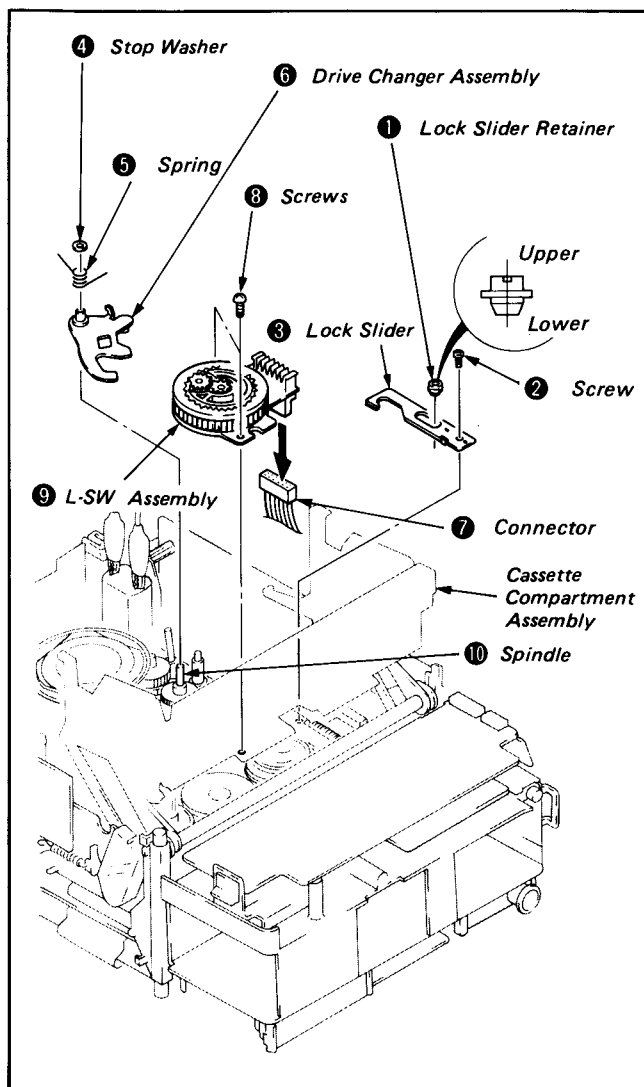

Fig. 8-34.
- 2) Remove the lock slider retainer ①.
- 3) Remove the screw ② and lock slider ③.
- 4) Remove the stop washer ④ and spring ⑤.
- 5) Remove the drive changer assembly ⑥.
- 6) Remove the connector ⑦.
- 7) Remove two screws ⑧ and L-SW assembly ⑨. (See Fig. 8-34.)
- 7) Remount the drive changer assembly ⑥. (See Fig. 8-34.)
- 8) Rehook the spring ⑤ and refit the stop washer ④.
- 9) Operate the mode selector and check that the L-SW assembly ⑨ rotates.
- 11) Remount lock slider ③ and secure with screw ②.
- 12) Remount by taking note of lock slider retainer ① upper and lower sections. (See Fig. 8-34.)